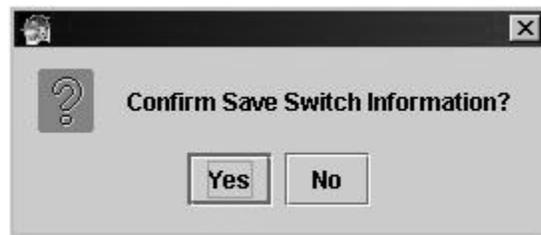

Figure 5-3: Confirm Save Switch Dialog
11. Click **SAVE**. The Select an Option dialog displays. See Figure 5-3.